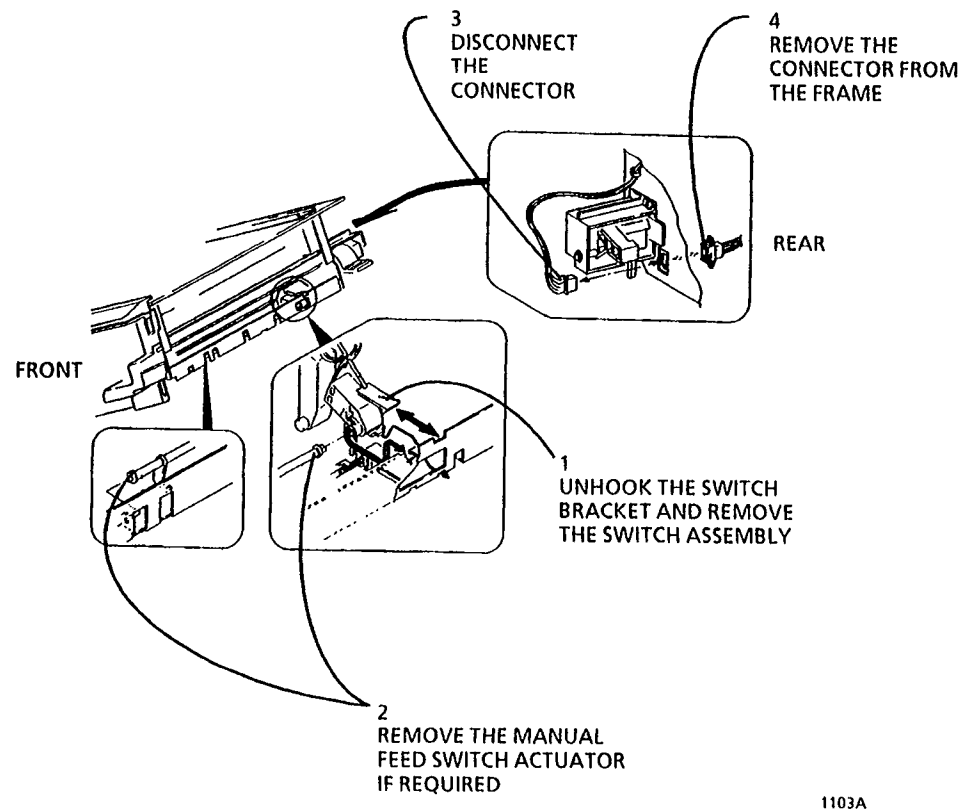

Figure 1. Removing the Manual Feed Switch/Registration switch
4. (Figure 1): Remove the Manual Feed Switch/Registration switch.